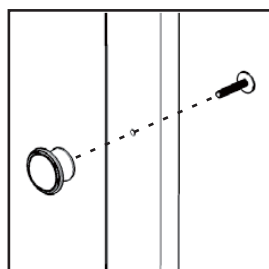

Figure 4
Attach Knobs to Doors (P) and (Q) with Machine Screws. (See Figure 4)